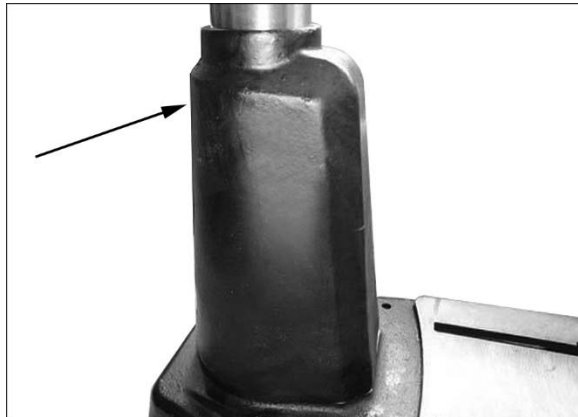

Figure 4
2. Make sure the set screw (Figure 4) is tight against the column. Tighten further if needed, using a 5mm hex key.